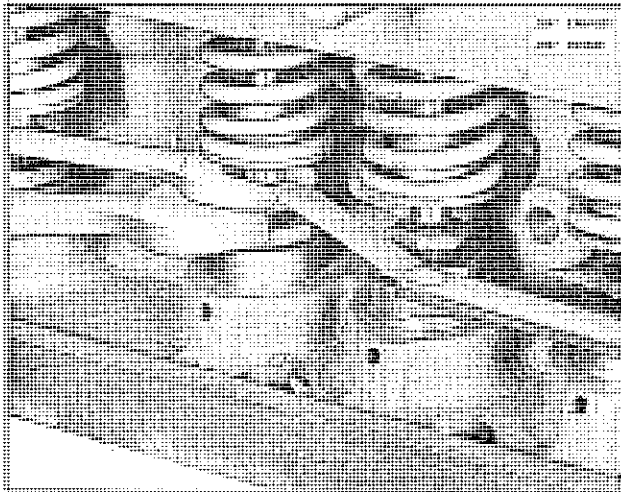

Figure 3. Adjusting Valve Clearance
- c. Check for proper 0.014 inch clearance by alternately passing a 0.013 inch and a 0.015 inch flat feeler gauge between head of adjusting screw and valve stem cap, see figure 3.
flat feeler gauge between head of adjusting screw and valve stem cap, see figure 3.